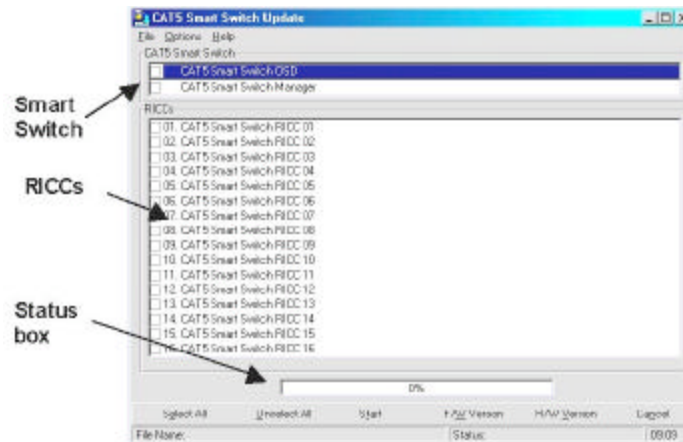

Figure 23 The Multi-Platform CAT5 KVM Update window
1. Start the CAT5 KVM Update software. The CAT5 KVM Update window appears. See Figure 23.
2. In the **Switch Unit** box, check the OSD option. See Figure 23.